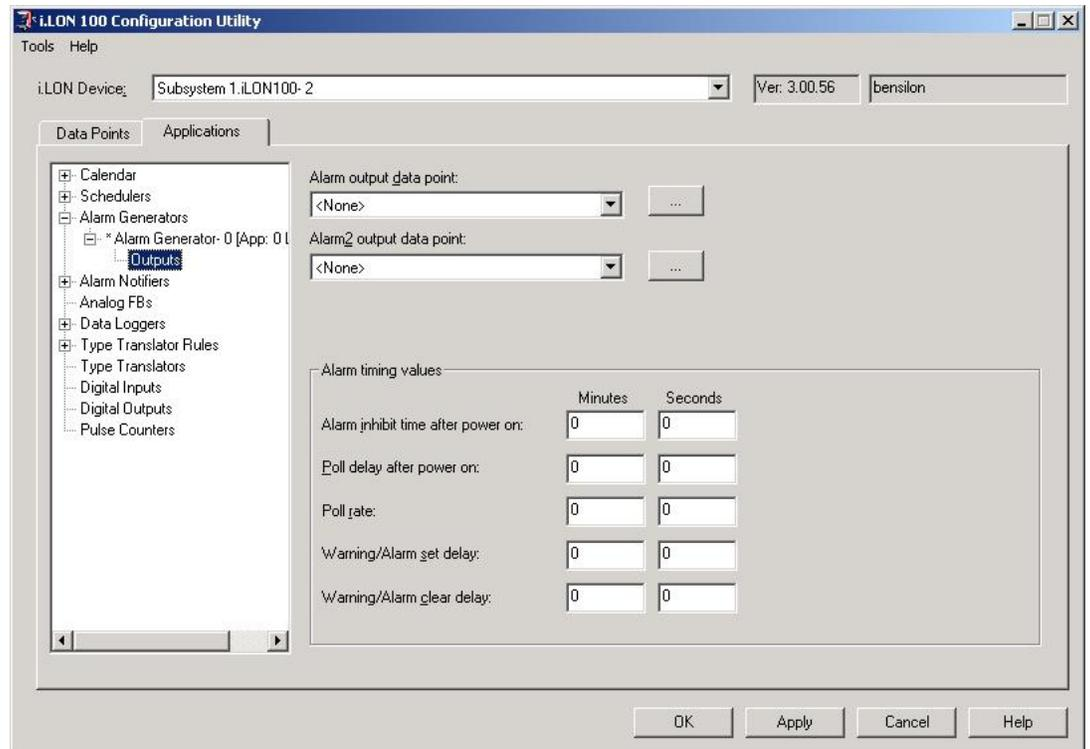

Figure 4.2 Alarm Generator Outputs Dialog
13. Select **Output** from below the Alarm Generator from **Applications** list. The dialog shown in Figure 4.2 opens.